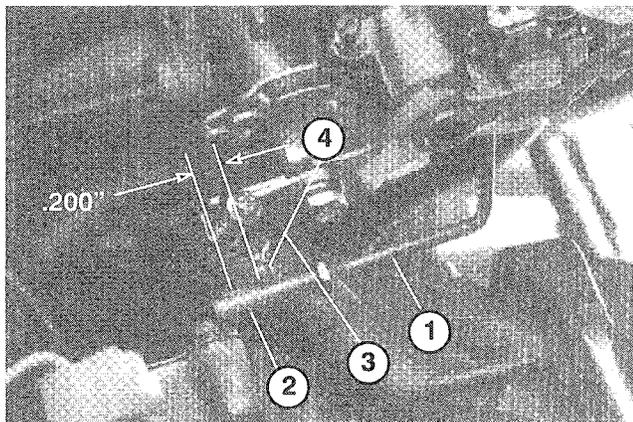

Figure 48
2. Rotate governor input lever clockwise to put a light tension load on the governor spring. Hold carburetor throttle against wide open throttle stop and adjust the ball joint on throttle rod to allow the ball joint socket to travel past the carburetor throttle stud by $.200" \pm .031"$ (Fig. 48). Tighten locknuts on throttle rod. Ball joints must move freely through full travel.
5. While rotating governor input lever counterclockwise and holding the carburetor throttle against the low idle stop, adjust the surge screw to allow the ball joint socket to travel past the carburetor throttle stud by $.200" \pm .031"$, in opposite direction shown in figure 48.